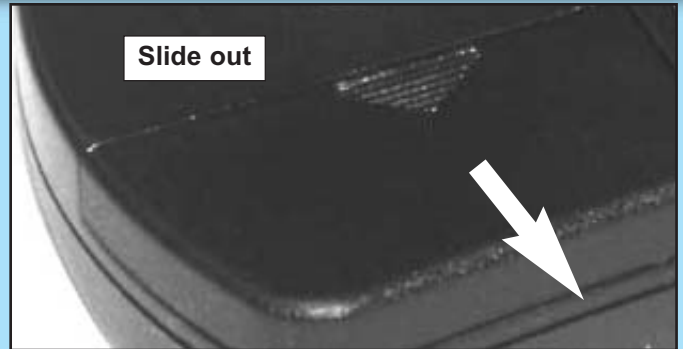

FIG. 8-1 Open battery cover.
- Gently push straight in on battery cover lock tab as shown (Fig. 8-1).